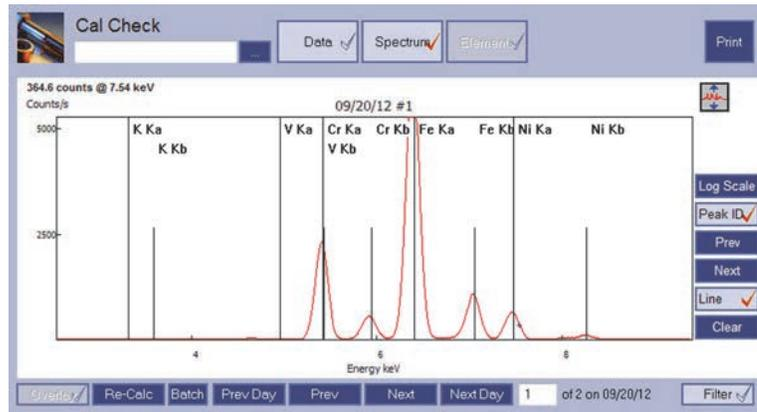

Figure 7-9 A zoomed Spectrum display
- You can further expand the display by canceling the selection of the **Data** button (see Figure 7-9 on page 101).